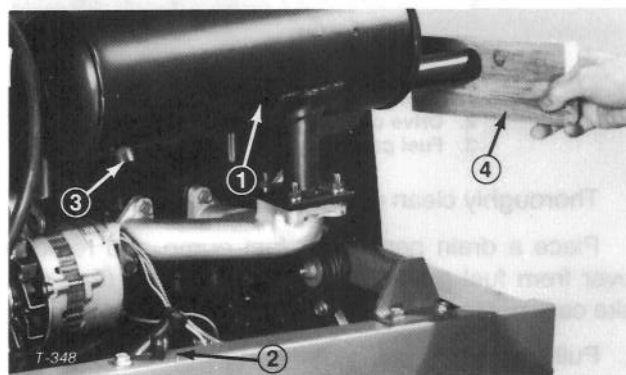

Figure 51
2. Remove pipe plug from clean-out port at lower side of muffler (Fig. 51).
3. Start engine. Plug the normal muffler exit with block of wood or metal plate so exhaust flow will be forced out of the clean-out port (Fig. 51). Continue to block exit until carbon deposits cease coming out port.